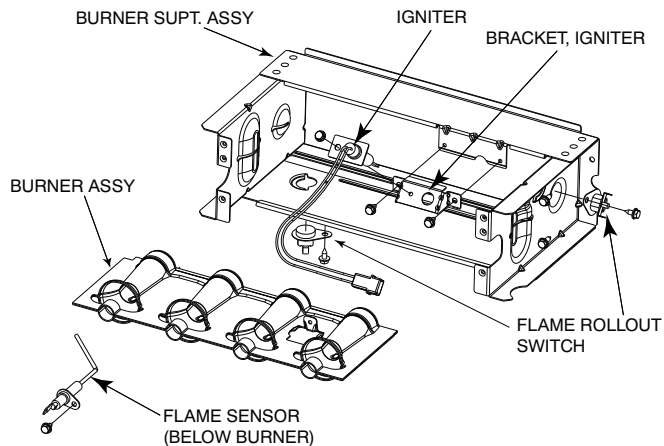
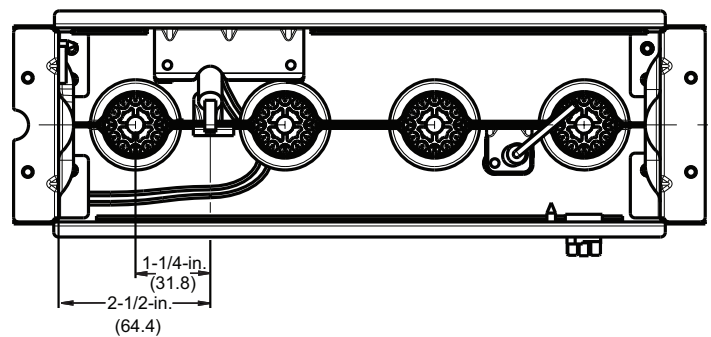
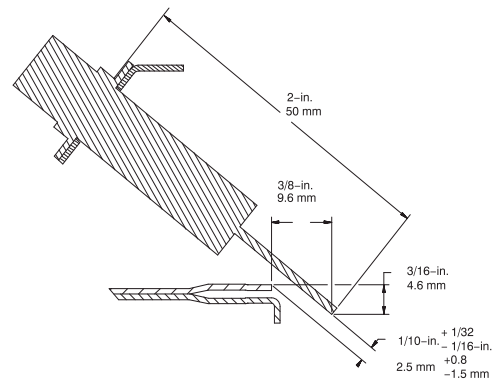

Fig. 58 – Burner Assembly
Fig. 59 – Igniter Position - Top View
Fig. 60 – Igniter Position - Side View
Refer to Fig. 58.
8. Check the igniter alignment. See Fig. 59, Fig. 60, and Fig. 58.
The igniter does **NOT** require annual inspection. Check igniter resistance before removal. Refer to Fig. 59, Fig. 60, and Fig. 58.
- a. Using a 1/4-in. driver, remove the two screws securing the igniter mounting bracket to the burner assembly. See Fig. 58.
6. To replace igniter and bracket assembly, reverse items 5a through 5d.
7. Reconnect igniter harness to the igniter, dressing the igniter wires to ensure there is no tension on the igniter itself. See Fig. 58.